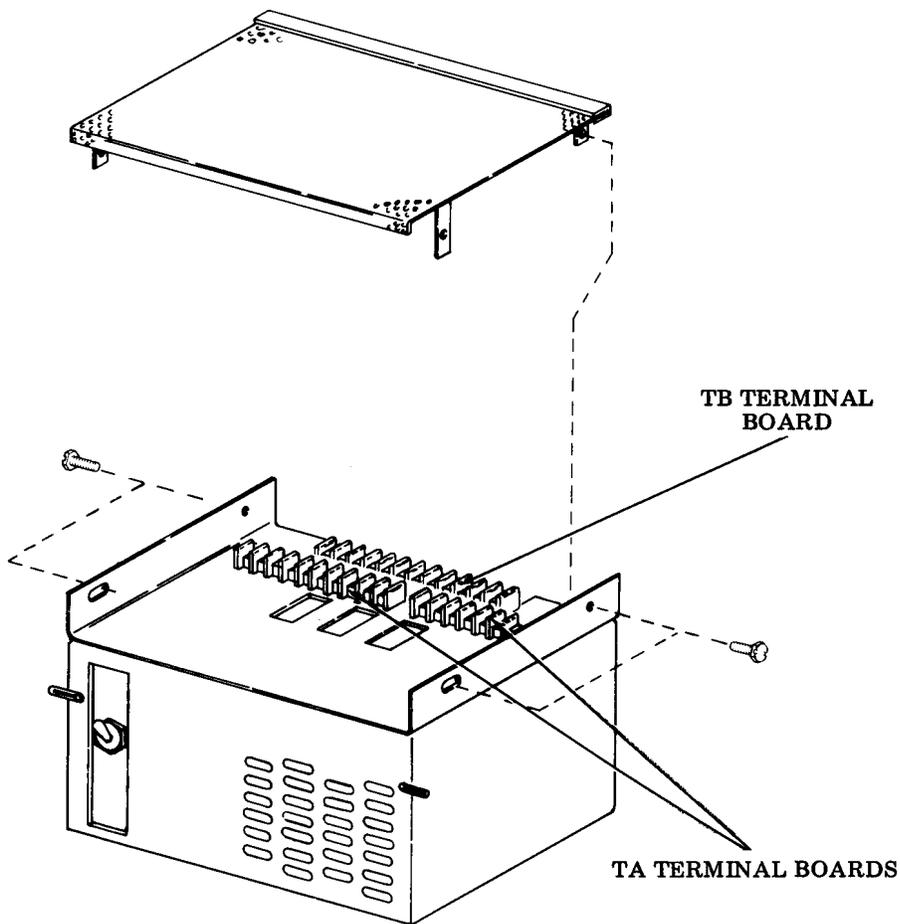

Figure 2 - CDPS802 and 803 Low Voltage Power Supplies
2.06 Remove the two holding screws from the screen cover on the supply and connect meter probes to TB terminal block, Figure 2. Do not attempt to make voltage adjustments on the power supply without accurate equipment, reference 1.09 (1).
2.08 Positive 5 Volt dc (Figures 2 and 3)
2.09 Positive 6 Volt dc (Figures 2 and 3)
2.10 Negative 11 Volt dc (Figures 2 and 3)